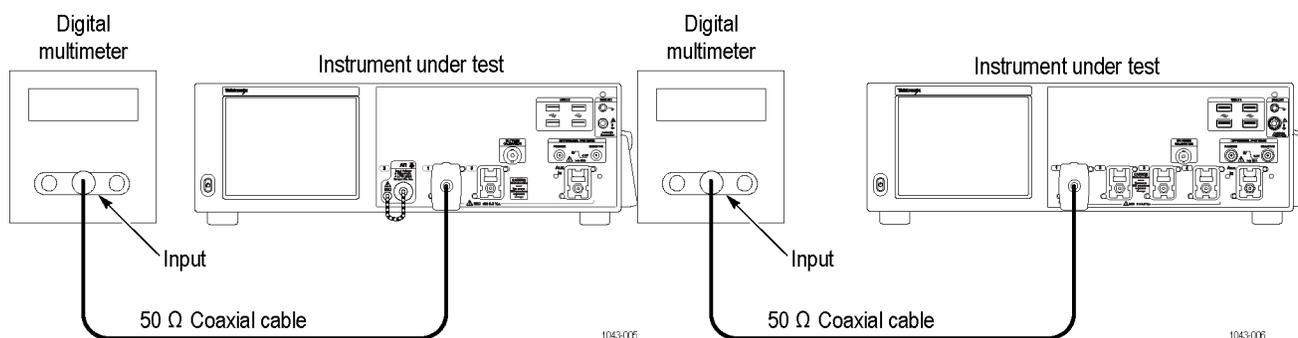

Figure 23: Input resistance test hookup
- d. *Hook up the test-signal source:* Connect, through a 50  $\Omega$  precision coaxial cable, the input of the multimeter to **Ch 1** through adapters. (See Figure 23 on page 155.)